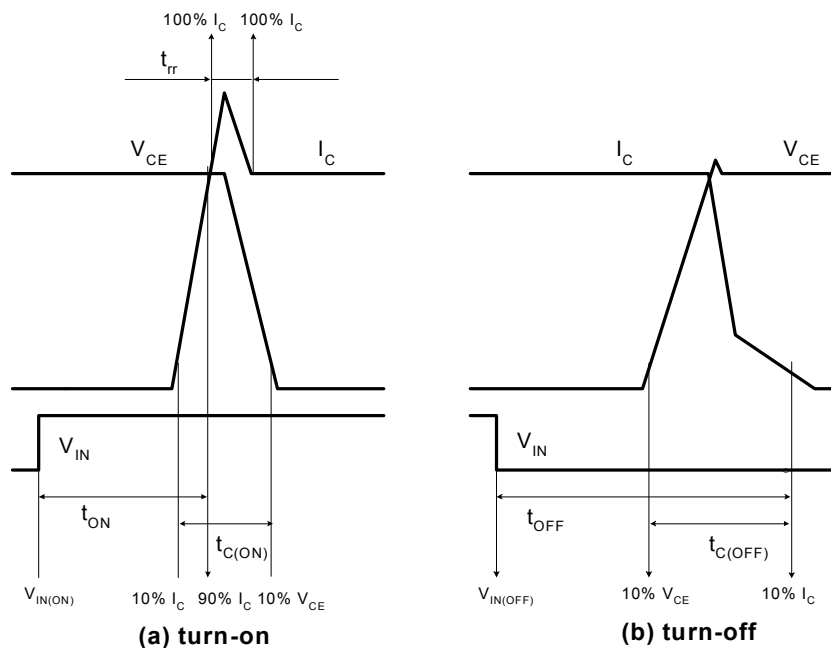

Figure 4. Switching Time Definition
- $t_{ON}$  and  $t_{OFF}$  include the propagation delay time of the internal drive IC.  $t_{C(ON)}$  and  $t_{C(OFF)}$  are the switching time of IGBT itself under the given gate driving condition internally. For the detailed information, please see Figure 4.